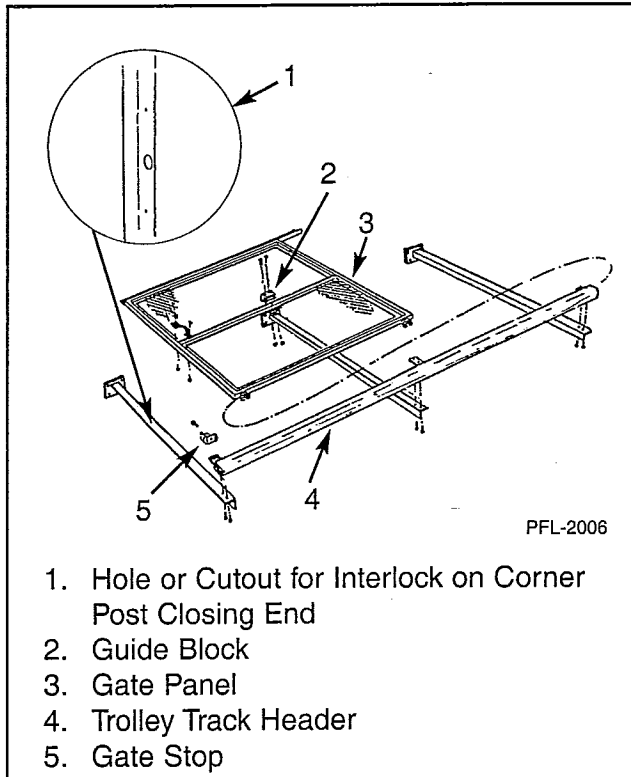

Figure 1
1. Lay the gate posts on the floor parallel to each other with the gate post that has the hole or cutout for the interlock on the closing end. The middle post should have two holes near the base plate for mounting the guide block. See Figure 1.